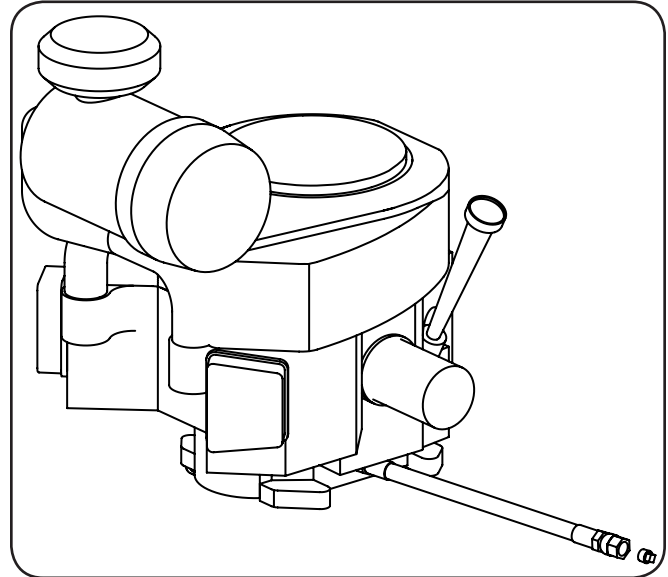

Figure 6-1
2. Locate the oil drain hose on the engine. See Fig. 6-1.
5. While holding the free end of the oil drain hose over the oil collection container, unscrew the square-head hose plug from the end of the hose. See Fig. 6-1. Drain the engine oil into the collection container.